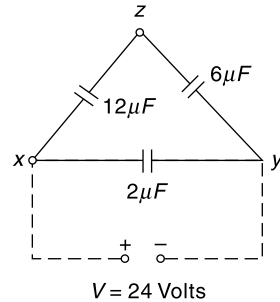

Fig. 2.35 Circuit of Ex. 2.23
2.23 In the network of Fig. 2.35, find the capacitance between points x and y . Also find the charges on the three capacitors. Assuming the potential of y to be zero, find the potential at z .